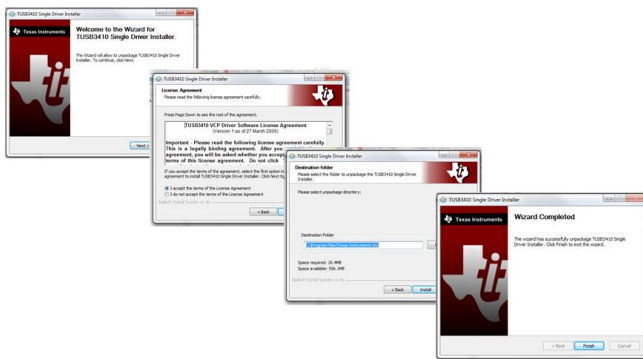

Figure 4: USB driver installation screens
8. Write this number down because you will need to enter it when you first start the program (Figure 4).